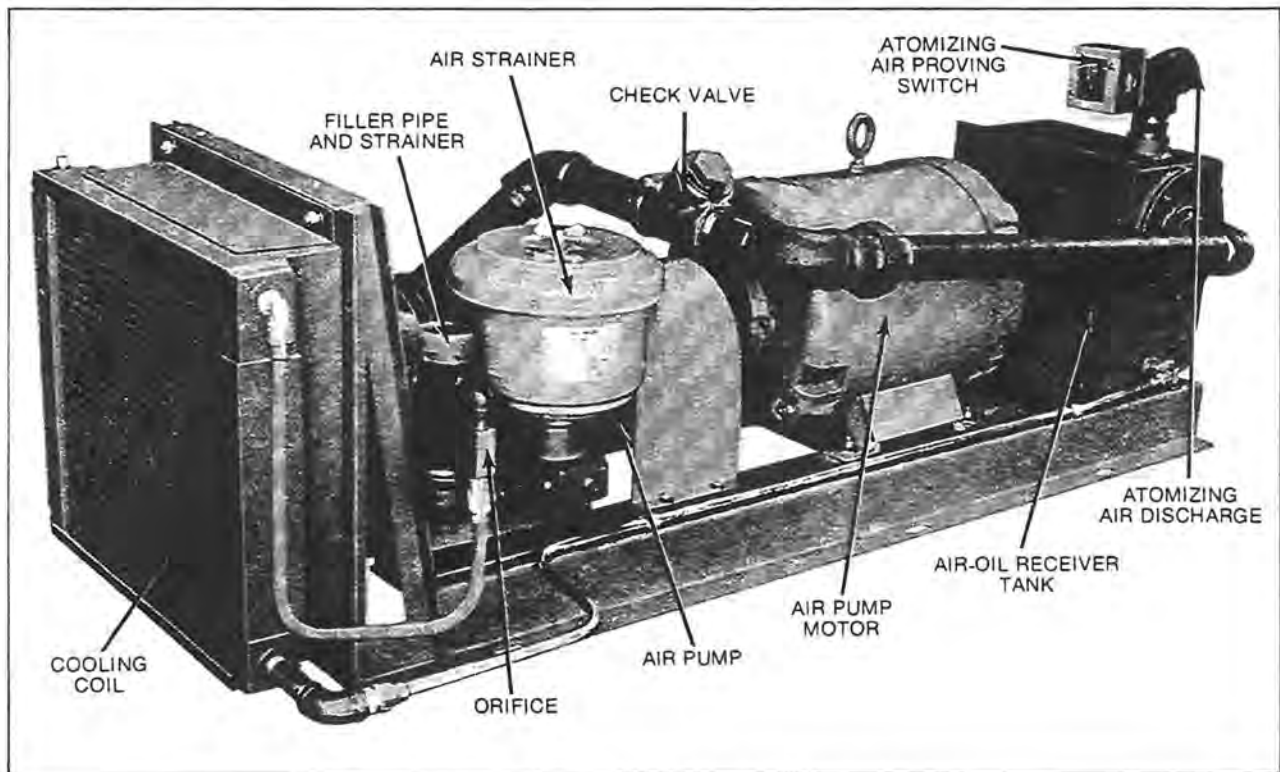

FIGURE 4-7 AIR PUMP MODULE
Refer to Figure 4-7 for identification of various components and use the following procedures in replacing the pump.
1. Disconnect union in pump discharge line. See Figure 4-7.